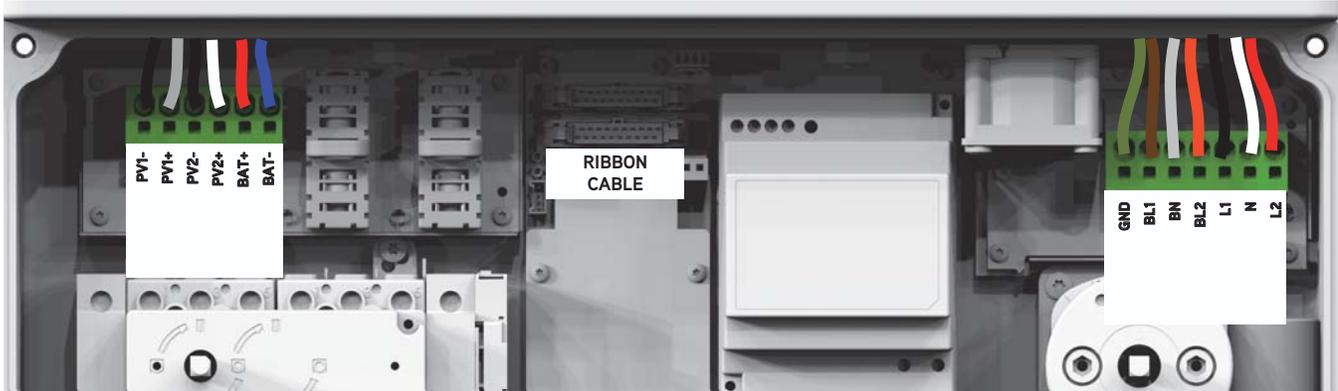

Figure 10-2: Wires from inverter top section to wiring box
7. Using a 10mm wrench, secure the three nuts (2) holding the top section of the inverter to the wiring box section. Torque to 21 foot-pounds (28Nm).
8. Connect the wires (1) to the spring-clamp connectors, following the color codes and instructions printed on the wiring box printed circuit board (PCB). See *Figure 10-2*.